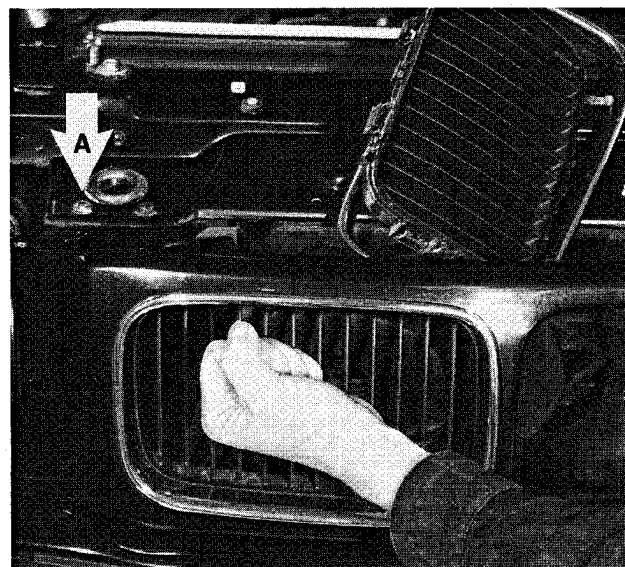

Fig. 17. Radiator grille being tapped inward. Right side front panel top retaining screw is shown at A.
5. Remove front panel top retaining screws near hood latches. Refer to Fig. 17.
2. Lightly tap center of grille toward radiator and remove from panel opening. Chrome ring pulls out from front. See Fig. 17.